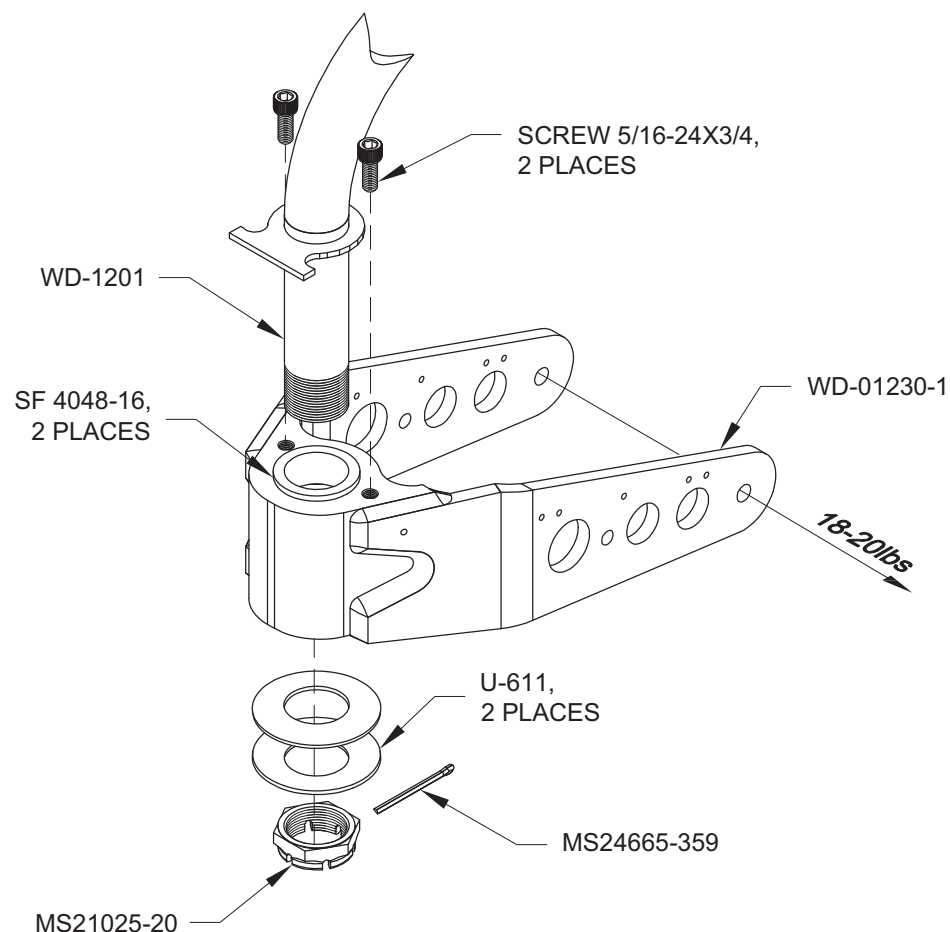

FIGURE 2: INSTALLING THE NOSE FORK ASSEMBLY
Step 4: Thread safety wire through the bolt holes used to secure the Nose Wheel and Tire Assembly to the Nose Fork Assembly, then attach a spring scale to the end of the safety wire. Tighten the MS21025-20 Nut until a force of 18-20 lbs is measured as the Nose Fork Assembly pivots around the spindle. Use the nut as a drill guide and drill #30 both sides of the nose gear leg for the cotter pin. Deburr as required then secure the nut with the cotter pin called-out in Figure 2.